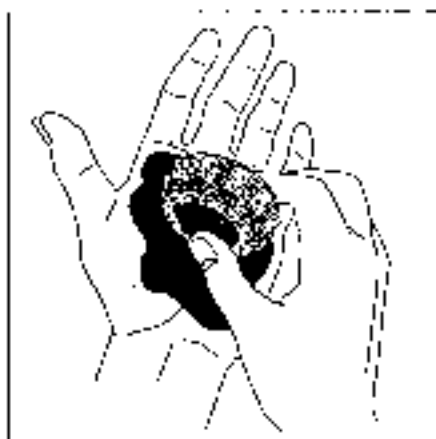

Figure 18-12:
8. Press the bearing into the glob of grease with the heel of your other hand (see Figure 18-12).